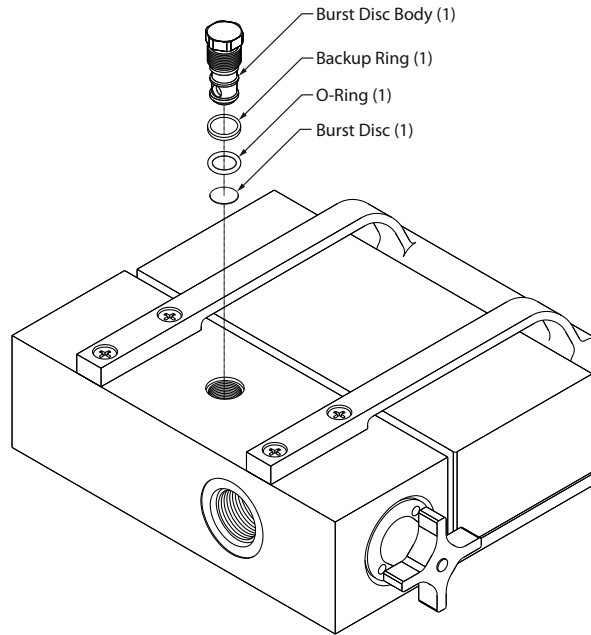

FIGURE 7 - PFM6 and PFM8 Burst Disc
1. Position the tester block to expose the internal burst disc body as shown in **Figure 7**.